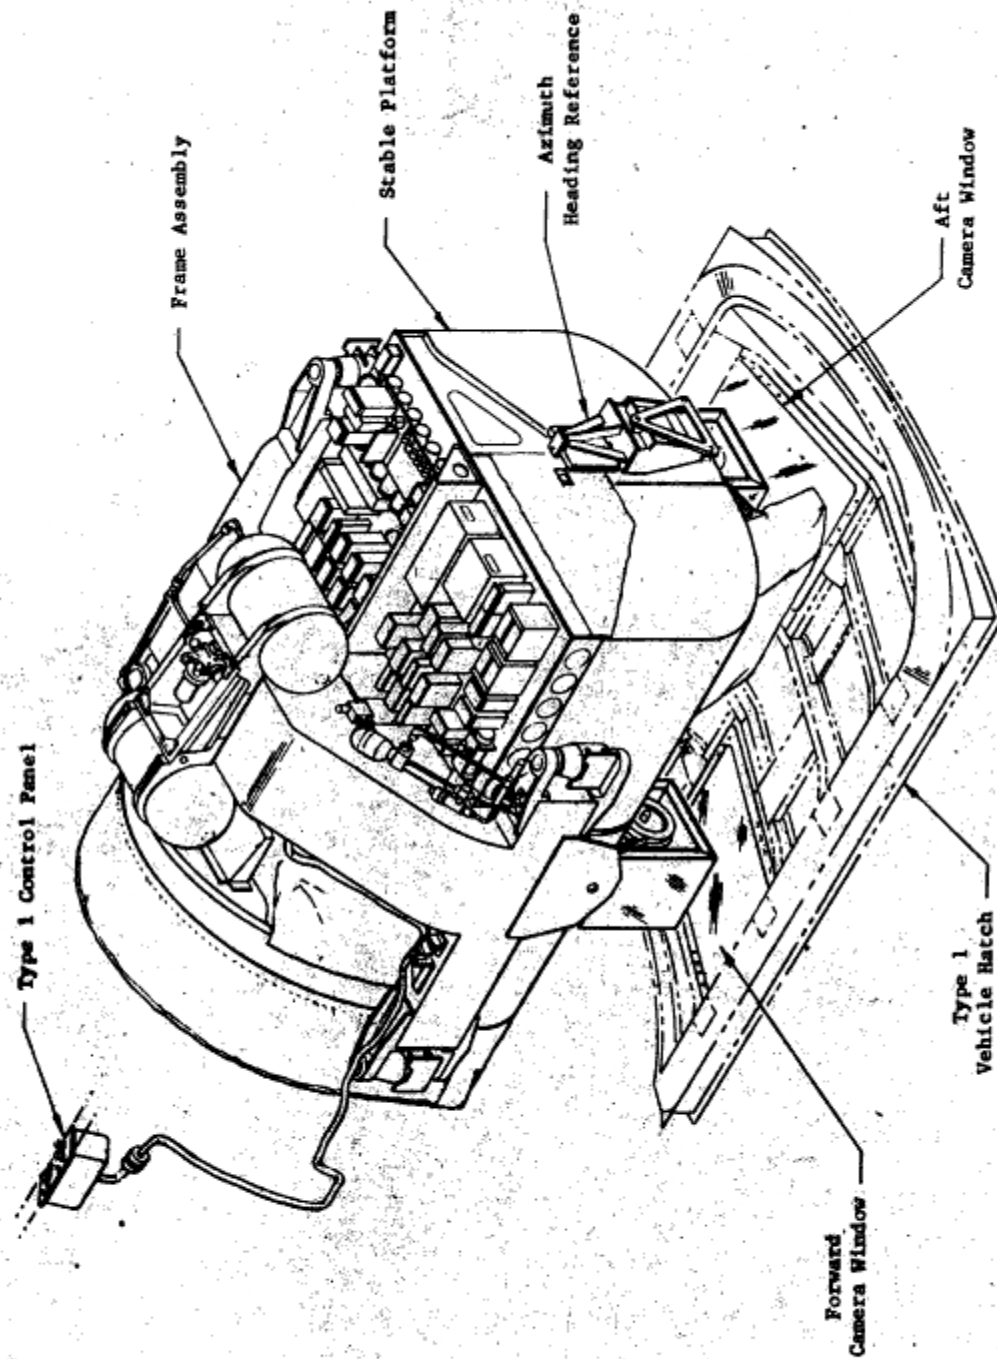

Figure 1-4. Q-Bay Package Type I, Physical Description.
- 1-7. The package consists of two major assemblies -- a stable platform and a supporting frame assembly. See Figures 1-4 and 1-5. The stable platform is an aircraft type structure that contains both camera systems and associated subsystems, and the stabilization system. The stabilized platform is gimbal supported at its center of gravity through a gimbal support rod that is fixed to the frame assembly. The frame assembly is installed directly in the Q-Bay at four isolation shock mounts.